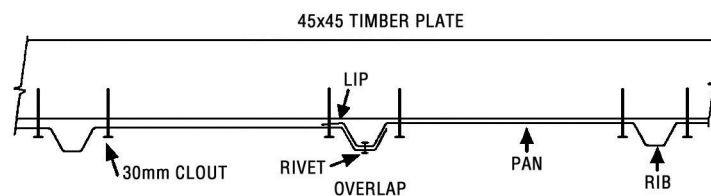

fig. 1
When fitting Gable End Sheets ensure they overlap correctly (*fig 1*).
Step 2: Back Wall: Position the first Wall Sheet with the LIP on the right hand side. Ensuring the LIP is flush with the side of the Studs and the top of the Wall Sheet is flush with the top of the Top Plate, tack in place. Position the next Wall Sheet with the LIP on the right hand side. Overlap as shown in (fig 1). Ensuring Wall Sheet is flush with top of Top Plate, tack in place. Repeat with remaining sheet.
- Step 2:** Where the Clear Roof Panel is to be positioned, nail a 45x45mm Bevelled Edge Support on each side of the Ridge Beam. (*fig. 1*)